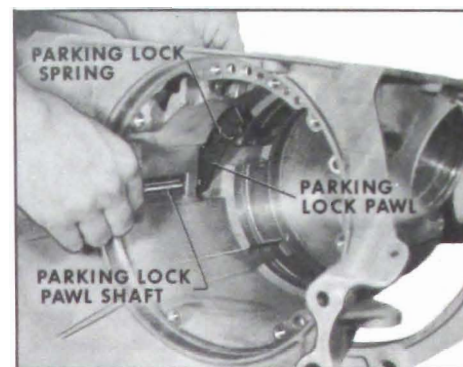

Figure 5-276
2. Retain parking lock pawl and spring in case with parking lock pawl shaft. See Figure 5-276.